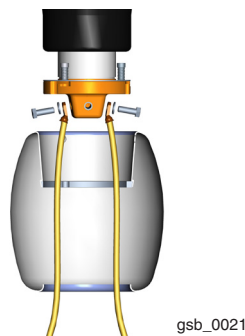

Fig. 19. Connecting to bottom contact.
2. Place the shield temporarily as shown in Fig. 19. Make sure to position the wider end of the shield towards the bushing.